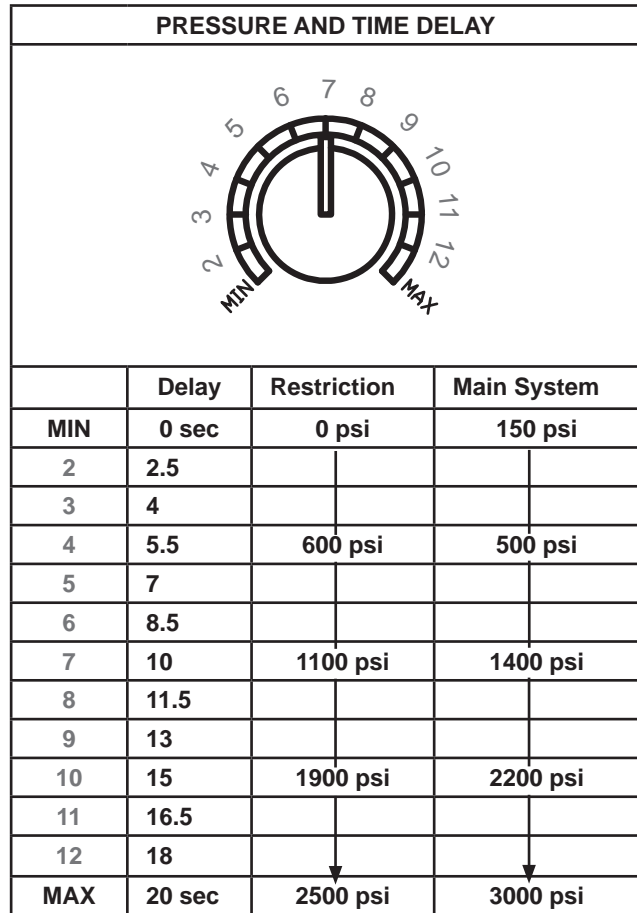

Figure 32 - Pot, Pressure and Delay.
2. Adjust RESTRICTION PRESSURE Pot #3 to approximately 700psi (see Figure 32 page 13). It may be necessary to adjust this pressure up or down to successfully build a plug.